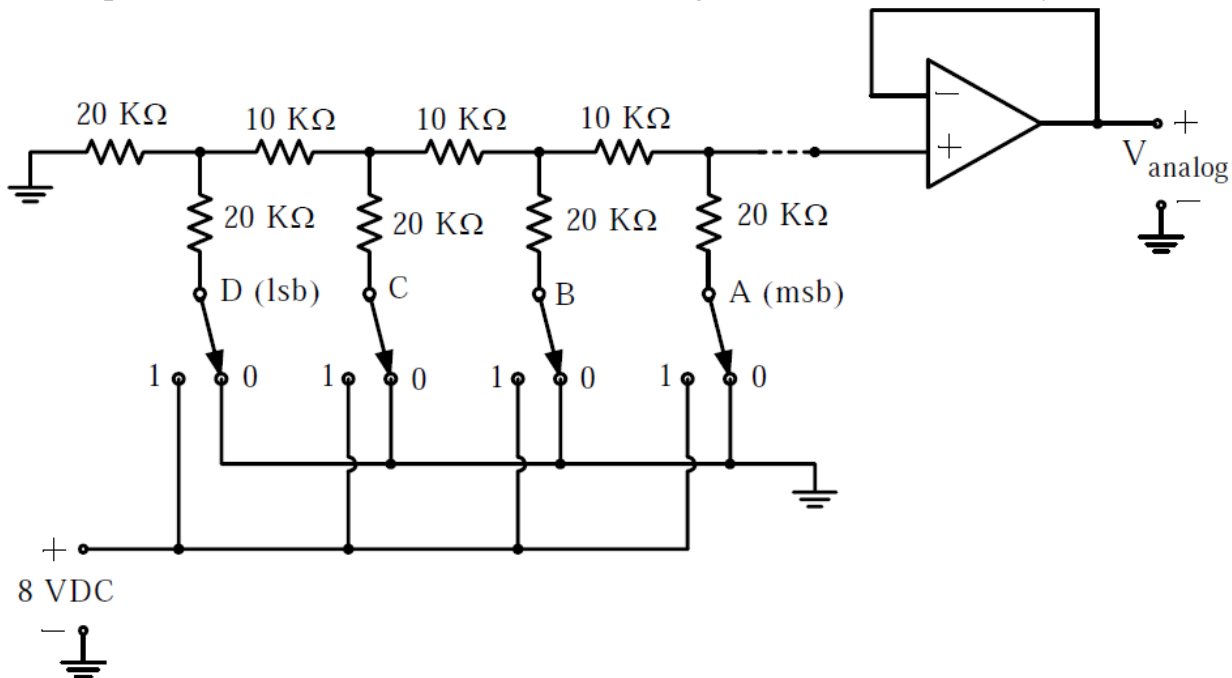

Fig. 52
**Example:** Figure 52 shows a four-bit DAC where all four switches are set at the ground level. Find the analog voltage value at the output of the unity gain amplifier for each of the sets of the switch positions shown in Table. Fill-in the right-most column with your answers.